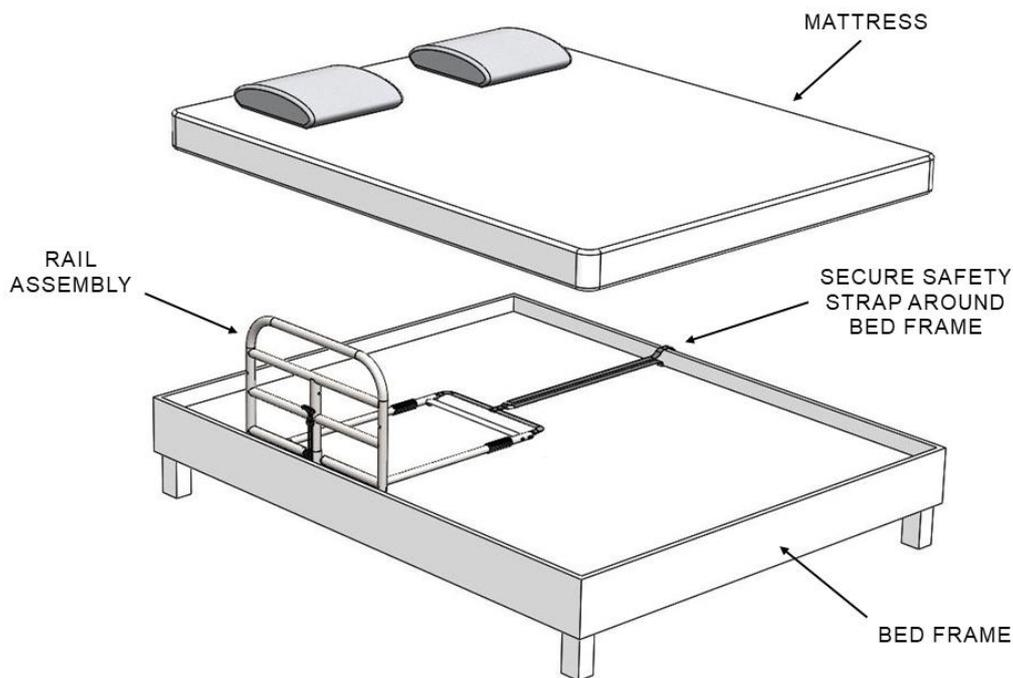

FIGURE 4
4. Place BED RAIL PRODUCT between the MATTRESS and the BED FRAME as shown in Figure 4.